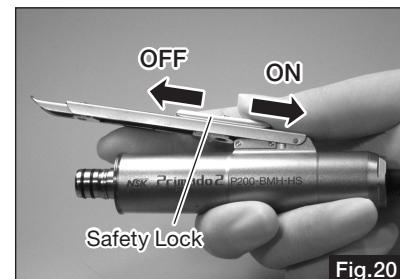

Fig.20
- Hold the Hand Switch and slide the Safety Lock to ON. (Fig. 20)